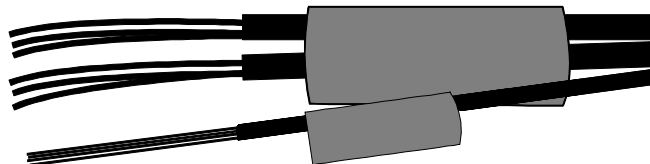

Figure 6
Step 2: Slide the heatshrink tubing over the cable as shown in Figure 6.